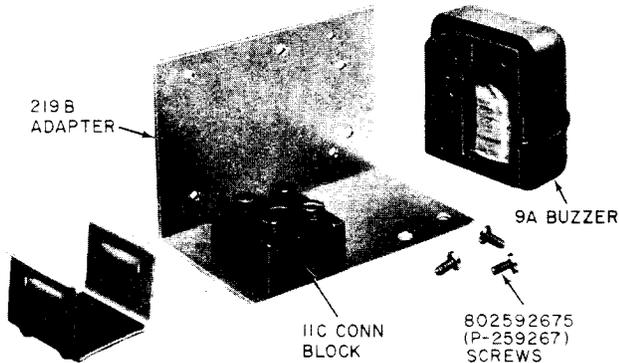

Fig. 4—9B Buzzer (Includes Adapter, Buzzer, Connecting Block, and Screws)
* Consists of 9A buzzer plus 219B adapter and mounting screws (Fig. 4). This buzzer for ac operation only.